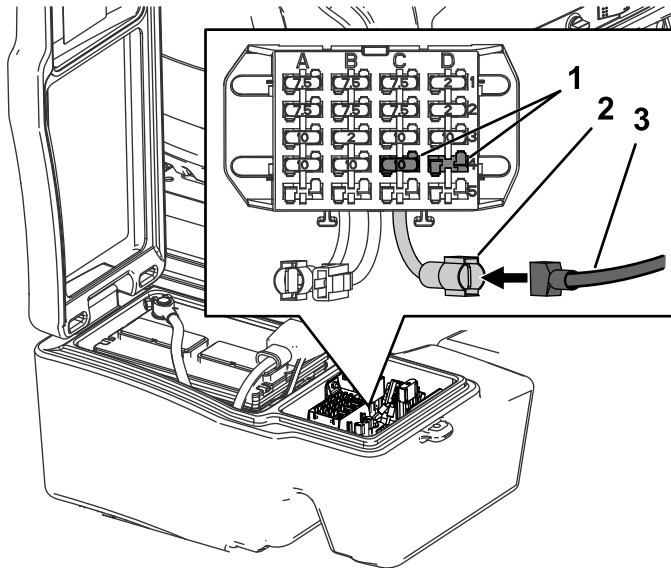

Figure 24
4. Plug the wire harness terminal into the auxiliary power wire leaving the fuse block as shown in Figure 24.